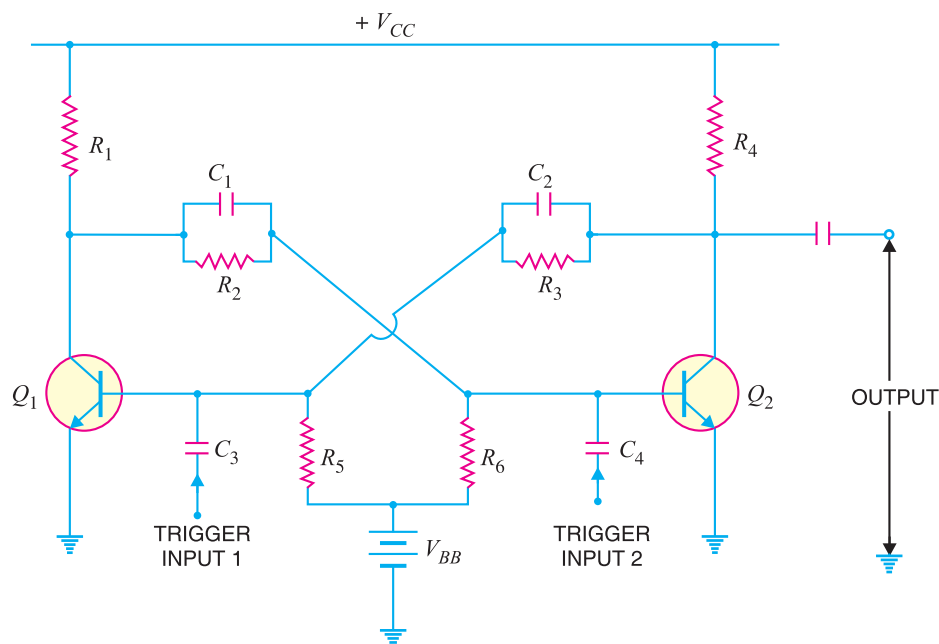

Fig. 18.17
**Circuit details.** Fig. 18.17 shows the circuit of a typical transistor bistable multivibrator. It consists of two identical *CE* amplifier stages with output of one fed to the input of the other. The feedback is coupled through resistors ( $R_2, R_3$ ) shunted by capacitors  $C_1$  and  $C_2$ . The main purpose of capacitors  $C_1$  and  $C_2$  is to improve the switching characteristics of the circuit by passing the high frequency components of the square wave. This allows fast rise and fall times and hence distortionless square wave output. The output can be taken across either transistor.